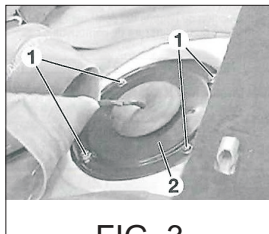

FIG. 3
- 1 The next step is to remove the bolts (1) [FIG. 3] and the cover (2) [FIG. 3].